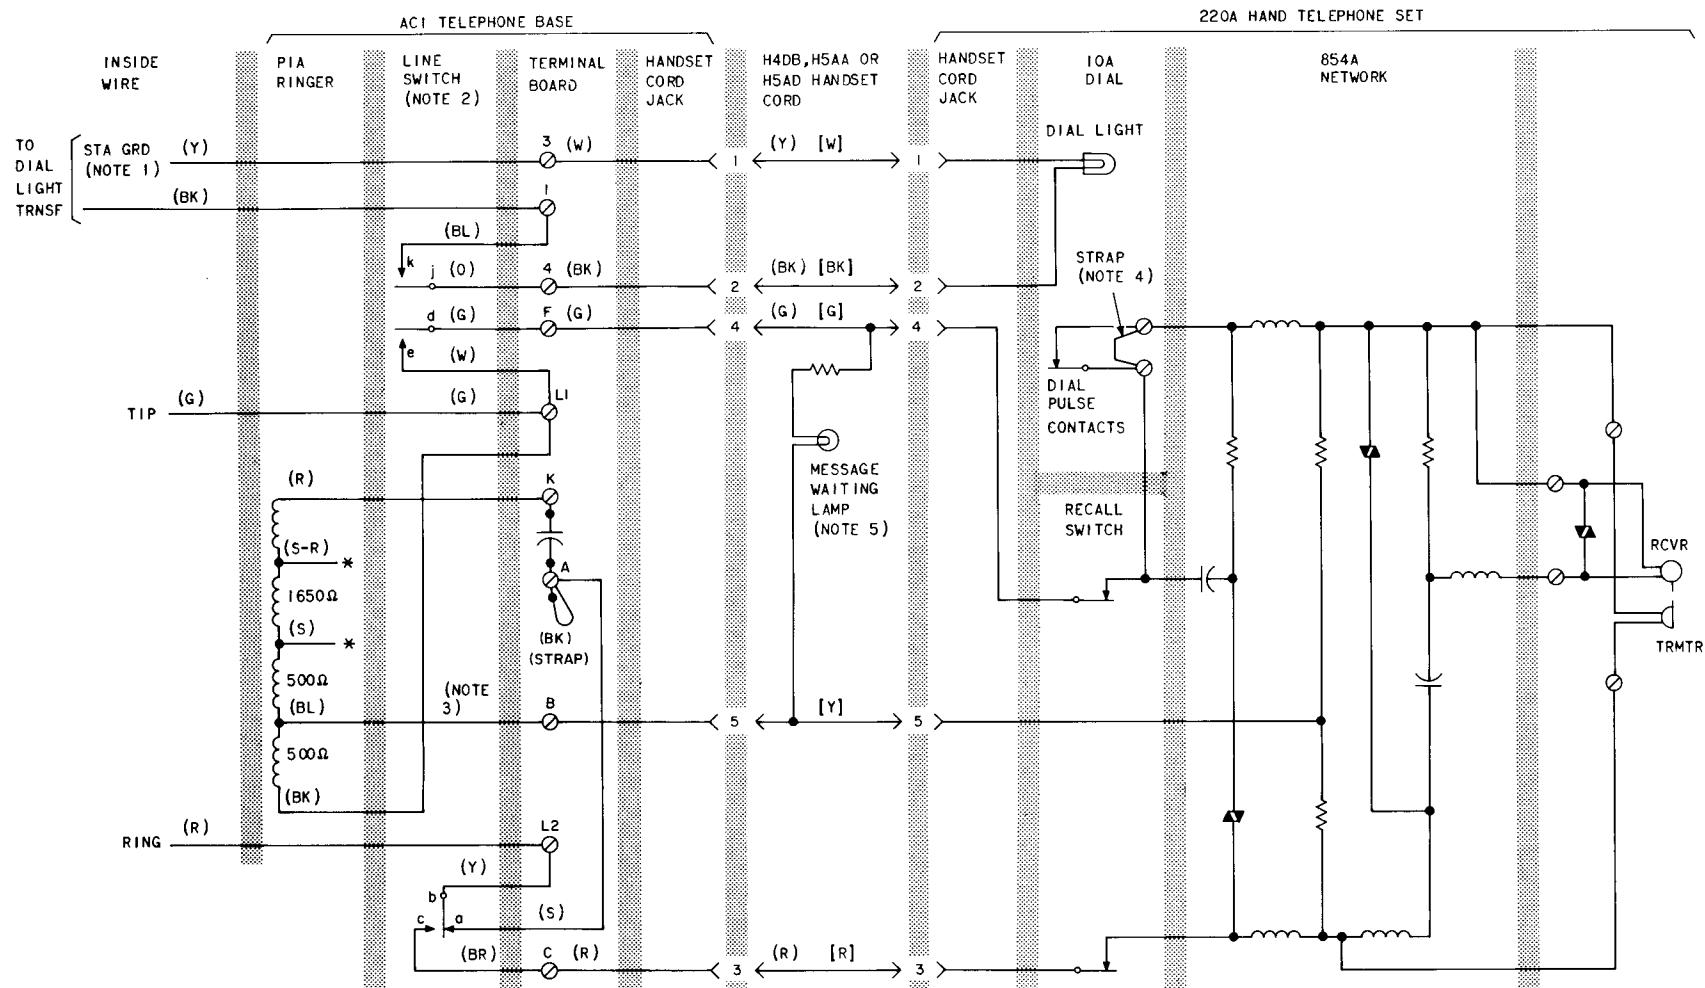

**Fig. 13—Restricting Dial of 220A Hand Telephone Set**
6.01 To restrict the dial on the 220A handset place a strap between the pulsing contacts as shown in Fig. 13 and 14. The dial will remain in the handset.